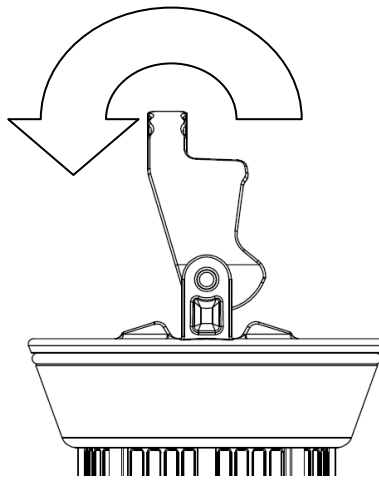

Fig. 6: Handle rotated 90° (side view)
2.5.1.3 Rotate basket handle approximately 90° upwards (towards top of vessel). This motion will unlock the bag retaining ring. (See fig. 6.)